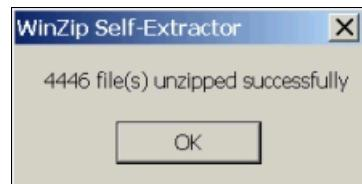

Figure A-7 Extraction finished
- e. Click **Unzip**. A window displays the confirmation messages as files are extracted (Figure A-7).